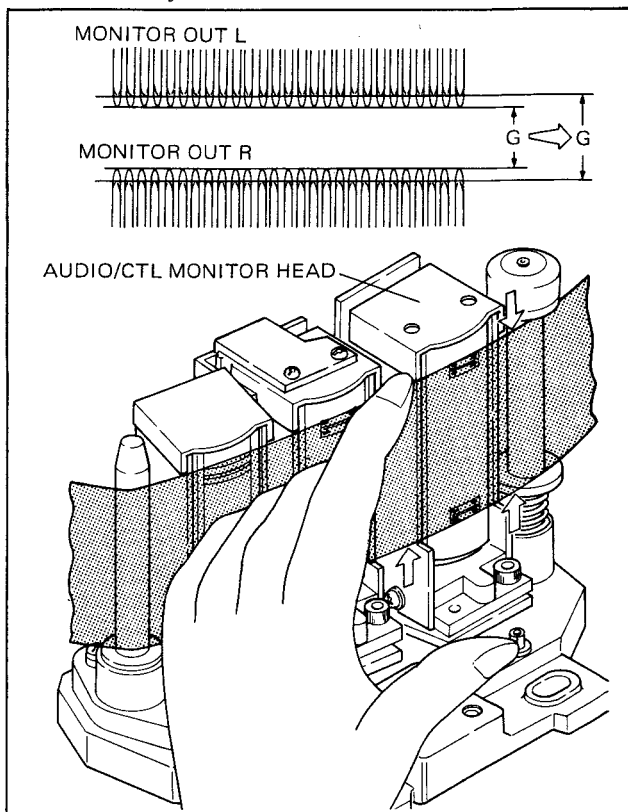

Fig. 3-98. Audio/CTL Monitor Head Height Check
2. Play back the audio 3 kHz segment of the alignment tape. Adjust the oscilloscope so that the amplitude of both channels increases and it is equal. Observe "G" shown in Fig. 3-98.
3. Check that clearance "G" becomes wide when the tape edge near the audio/CTL monitor head is pushed up or down, as shown in Fig. 3-98. If "G" becomes narrow, perform the following adjustment.